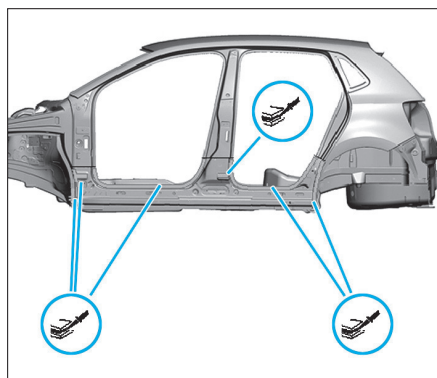

FIG. 76
- Apposer un cordon de colle Ø 4mm (Fig.76).